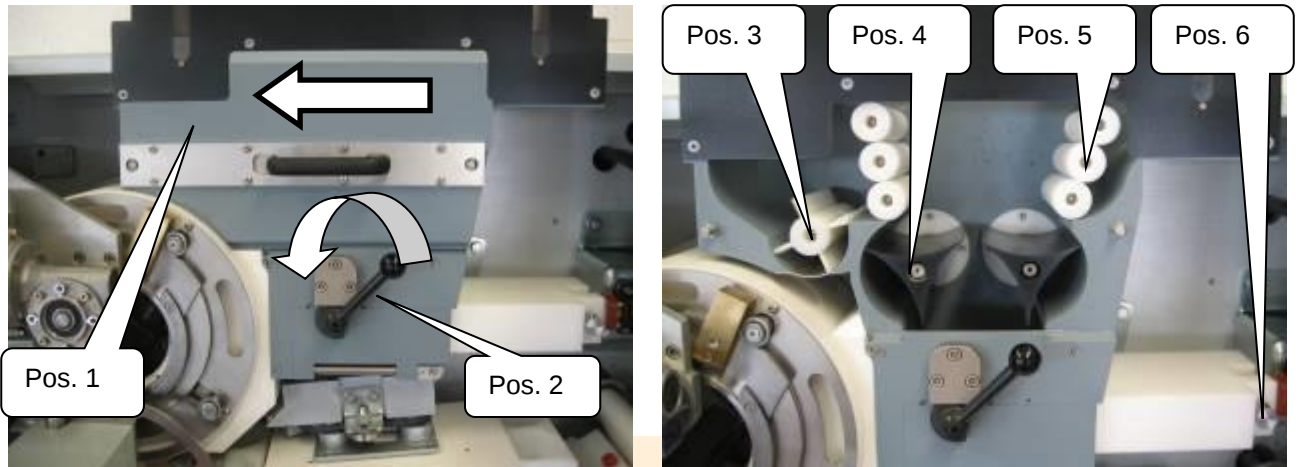

Figure 37 - Cleaning the head
- Look at the images in Figure 37 here below. Remove the cover from the head unit (Pos. 1) by means of the sliding handle, as shown in the figure. The internal parts of the head will be accessible. At this point, it will be possible to extract the two “star dosing devices” for cleaning (Pos. 4), the six dough accompanying rollers (Pos. 5), and the brush of the flour duster (Pos. 3). All these items can be removed without the use of tools, thus facilitating the daily cleaning of the machine. At the end of the cleaning operation, carefully put them back in the appropriate compartments, then close the access cover. The cover should be handled carefully to avoid damaging it during storage;
- Open the cover (Pos. 2) of the “dough compression piston” by turning the lever connected to it: in this situation, the plastic piston will also be accessible, which can also be completely disassembled to clean it thoroughly. The dough compression piston is kept in place by a connection pin (pos. 6), which must be slid it out to extract the piston. Extracting the plastic piston also allows thoroughly cleaning the inside of the “dough compression chamber” (that is the chamber inside which the “dough compression piston” runs). To put back the piston, insert it inside the chamber, slide it horizontally to the right, insert the pin after aligning the through hole of the plastic piston with the connection hole on the part fixed to the hydraulic cylinder. Next, close the cover.